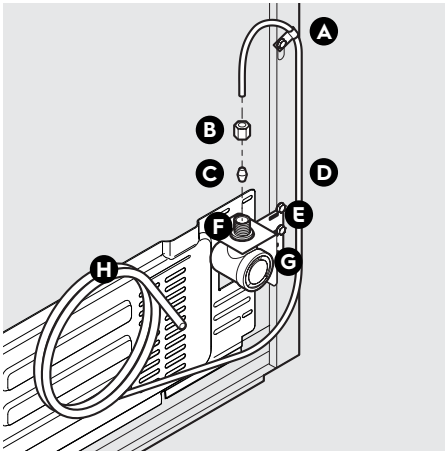
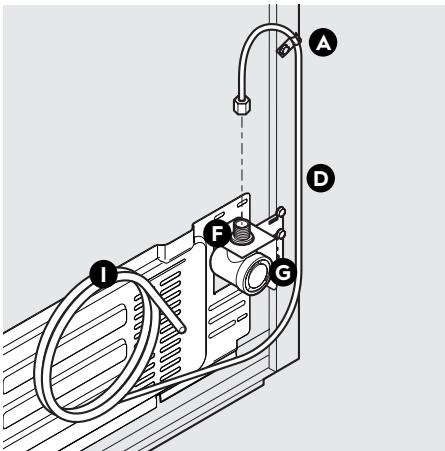

Figure 1
Figure 2
4. If you use copper tubing - Slide the brass compression nut, then ferrule (sleeve) onto the water supply line. Push the water supply line into water valve inlet as far as it will go (¼ inch/6.4 mm). Slide ferrule (sleeve) into the valve inlet and finger tighten the compression nut onto valve. Tighten another half turn with a wrench; DO NOT over tighten. See Figure 1.
- If you use braided flexible stainless steel tubing - The nut is already assembled on the tubing. Slide the nut onto the valve inlet and finger tighten the nut onto valve. Tighten another half turn with a wrench; DO NOT over tighten. See Figure 2.
D	Water Line-- Copper (Fig. 1) Braided Flexible Stainless Steel (Fig. 2)